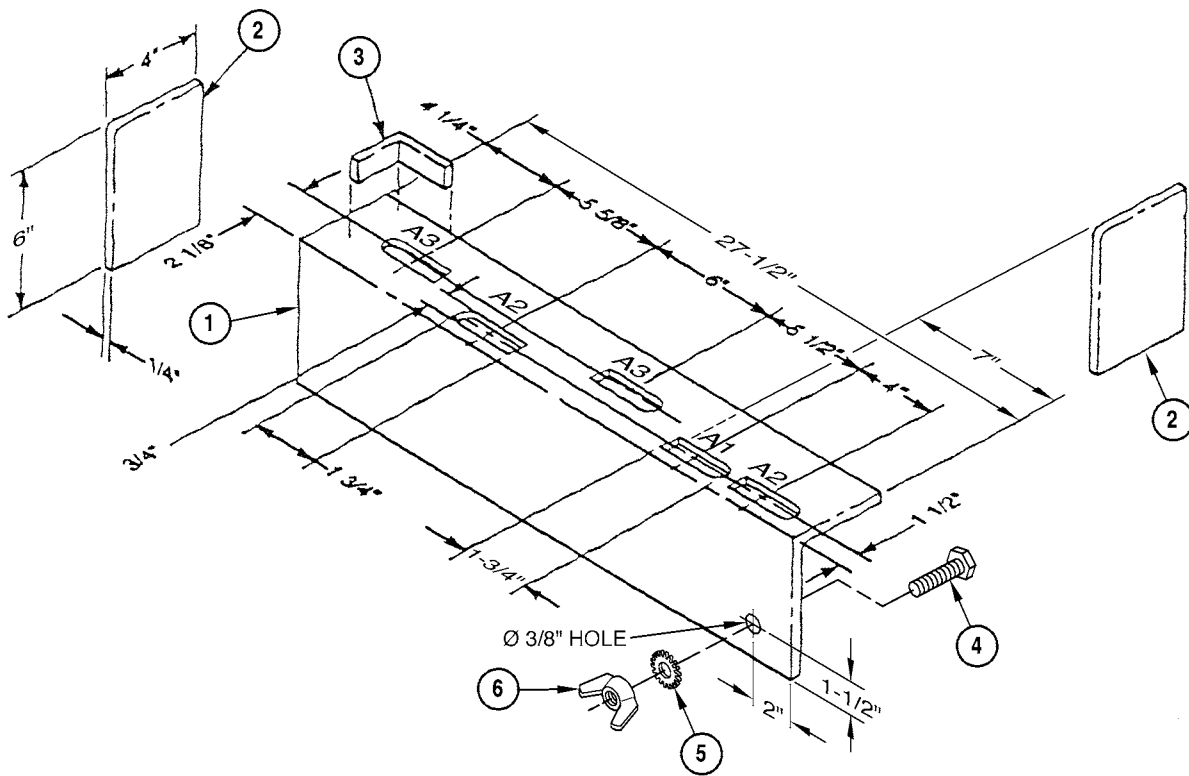

Figure 2-6. Front-Engine Mount Fabrication
1. Locate, cut, and drill five 3/4 by 1-3/4 inch slots in steel angle (1) per Figure 2-6.
2. Locate two tread plate stiffeners (2) left 7 inches from end, right flush with end, on angle per Figure 2-6. Weld stiffeners in place.
3. Locate tread plate stop guides (3) flush on front of mount, 3-1/2 inches from outside edge per Figure 2-6. Weld guides in place.
5. Install lockwasher (5) and wingnut (6) on threaded rod (4).